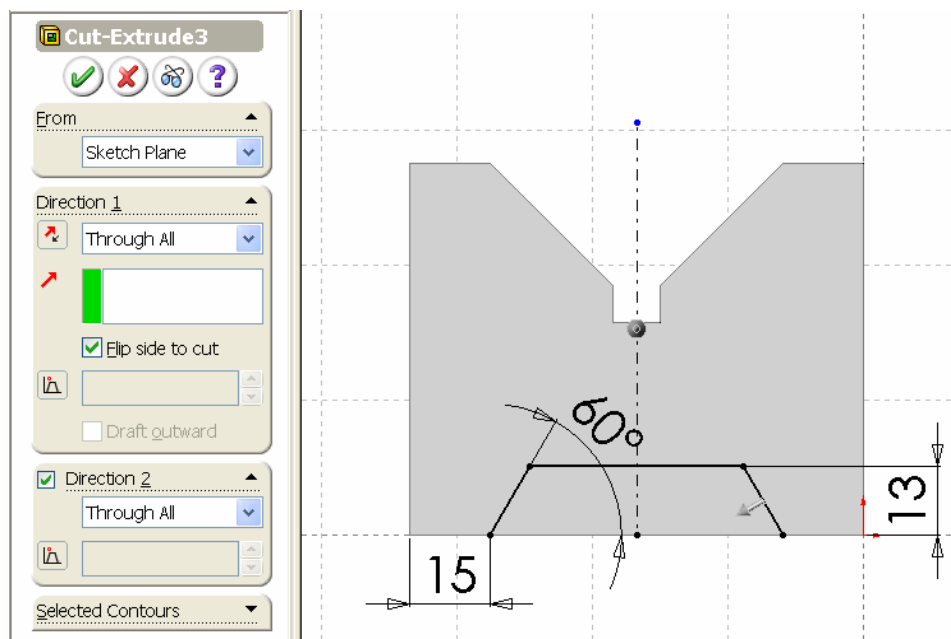

Figure 24 Trapezoid Slot Cut
- 16) Uncheck **Direction 2** as shown in Figure 24.